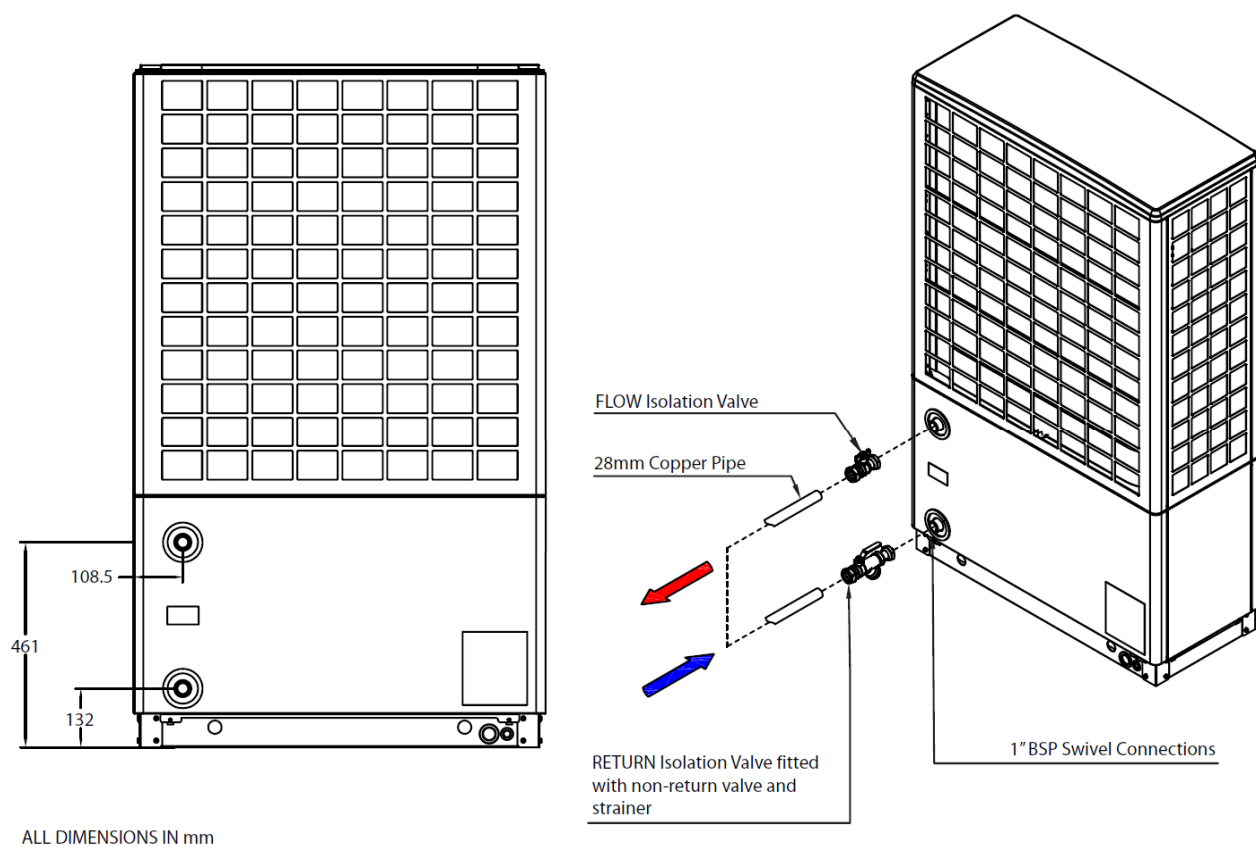

Figure 4: Details of flow and return isolation valves
- Existing hot water systems should be flushed prior to connection to the heat pump to remove all contaminants and impurities, in accordance with the latest version of MIS3005. Ensure the water out and water in pipes are positioned correctly for connection to the heat pump as shown on the label in figure 1(a) and on the back of the heat pump in figure 4.
- Flow and return isolation valves and piping must be fitted to each of the heat pump water connections on the back of the heat pump, as shown in figure 4.